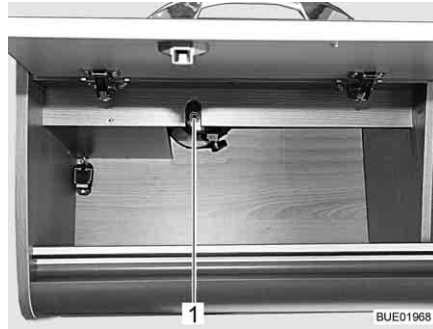
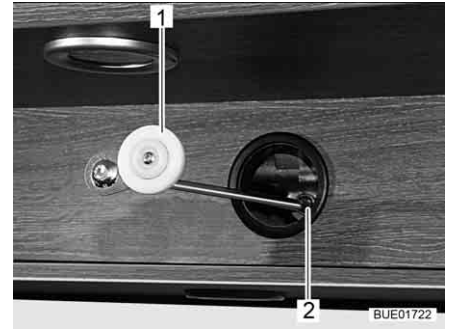

Fig. 129 Access to drive (Lyseo)
Fig. 130 Mechanical operation, drive
- If the holder (Fig. 129,1) for the drive is installed in the wall-mounted cupboard: open the wall-mounted cupboard.
- Insert the crank (Fig. 130,1) provided or an Allen wrench into the accommodation on the motor (Fig. 130,2 or Fig. 129,1).